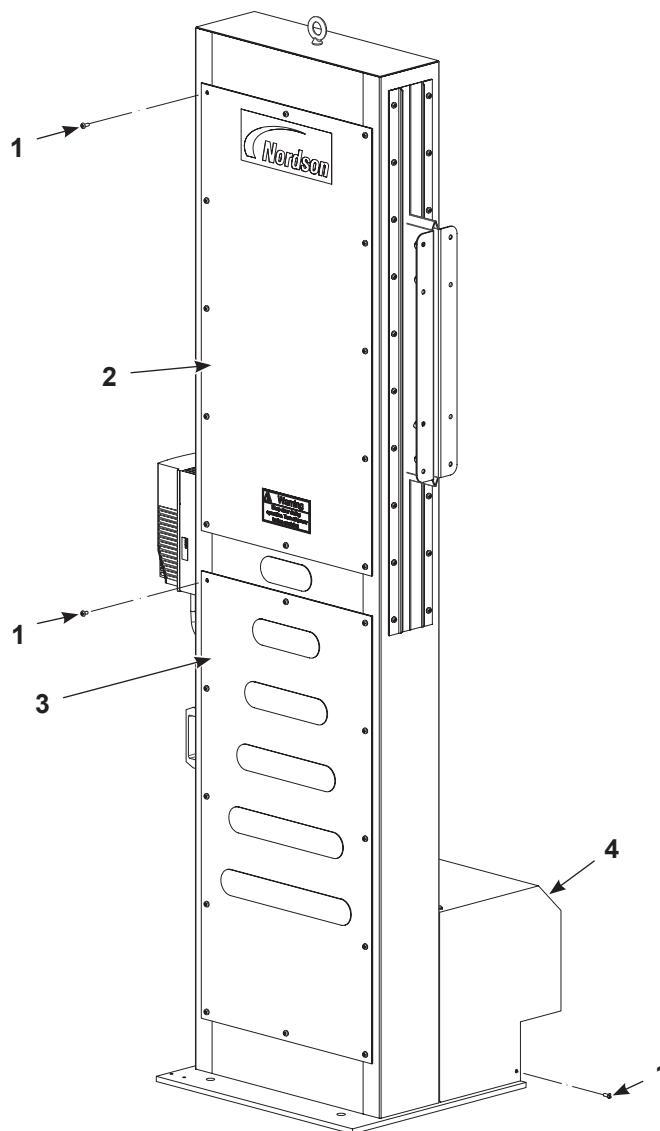
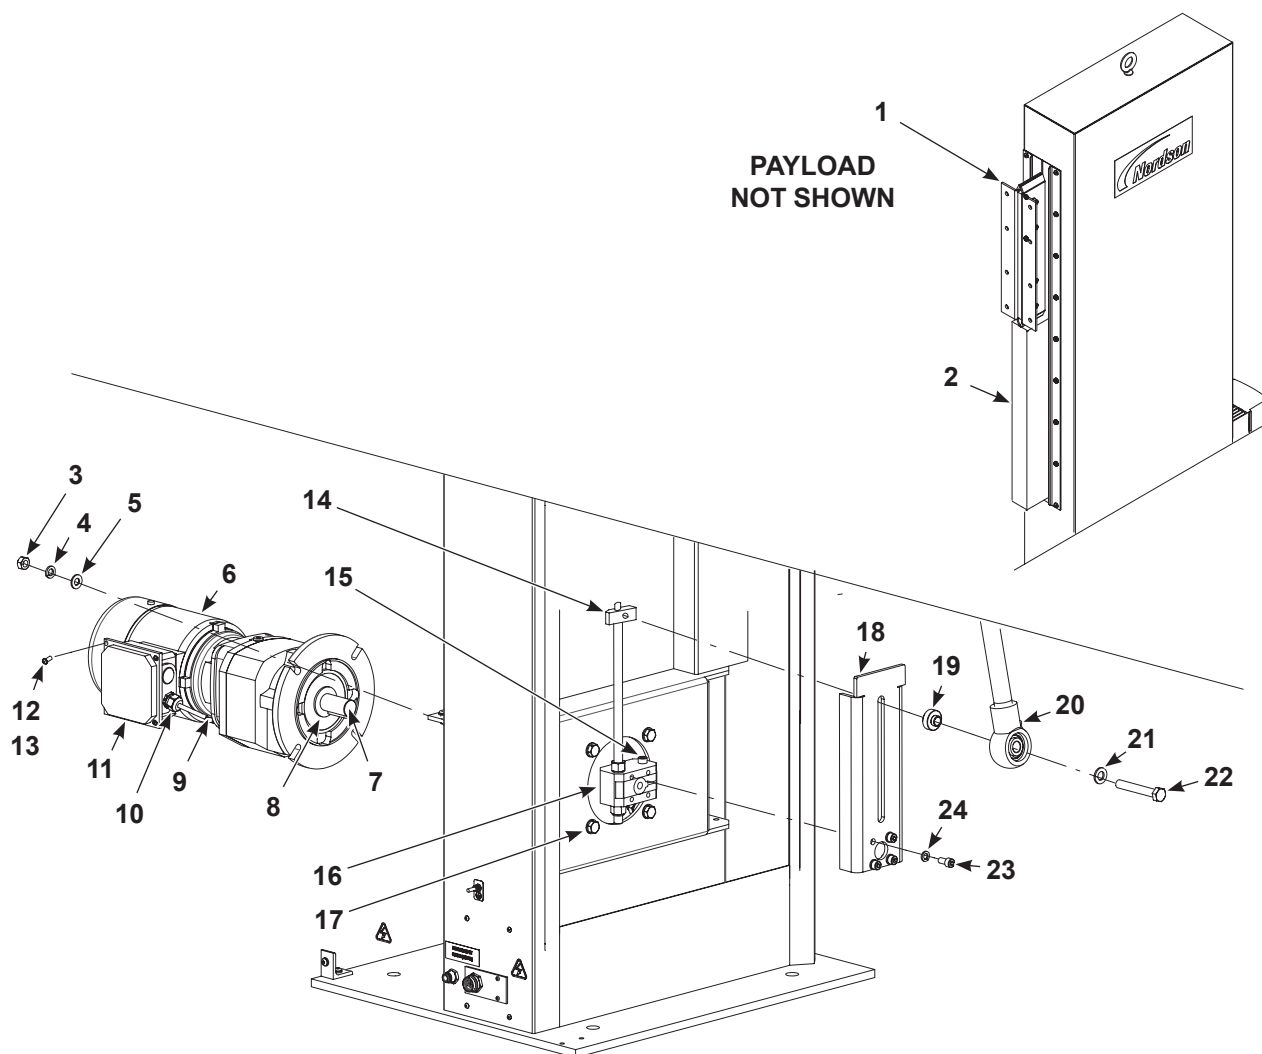

Figure 11 Removing the Covers
Figure 13 Replacing the Gear Motor
1. See Figure 11. Remove the screws (1) from the applicable panel (2, 3) or gear motor cover (4) to gain access to an oscillator part.
1. See Figure 13. Move the gun carriage (1) to the top stroke position. Use a block (2) as shown to support the gun carriage (1).
3. On the old oscillator gear motor being replaced, remove the screws (12) and lock washers (13) securing the cover to the junction box (11).
4. Remove the cable strain relief (10) and set aside to use with the new gear motor.
5. Disconnect the cable wires inside the junction box (11). Carefully pull the cable (9) out of the junction box.
6. Remove the lower access panel as shown in Figure 11.
7. Remove the bottom connecting rod screw (22), washer (21), and the spacer (19). Then remove the four torque arm screws (23) and the washers (24) from the clamp hub (16) to remove the torque arm (18).
8. Loosen the M8 screw (15) to remove the clamp hub (16) from the gear motor shaft (7).
9. Remove the nuts (3), lock washers (4), and flat washers (5) securing the gear motor (6), and remove gear motor from the oscillator. Do not remove the screws (17).
8. Refer to above table. Based on local power voltage being supplied to the oscillator motor and oscillator configuration, refer to appropriate electrical schematic figure used in *Wiring Diagrams* section. Determine if the new gear motor is a 6 or 9 terminal motor. Configure the connection of the terminal jumpers and connect the cable wires to junction box (11). Connect the cable wires to the junction box (11). Refer to the *Wiring Diagrams* section if necessary.
9. See Figure 13. Tighten the cable strain relief (10).
10. Install the cover to the junction box (11) using the screws (12) and the lock washers (13). Tighten the screws securely.